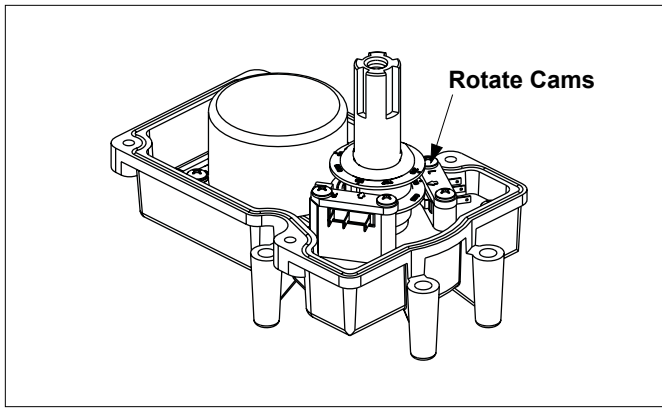

Figure 11. JVA Cam Adjustment
4. To set the cams, rotate the cam(s) until the arrow mark on the cam(s) align with the microswitch actuator (see Figure 11).